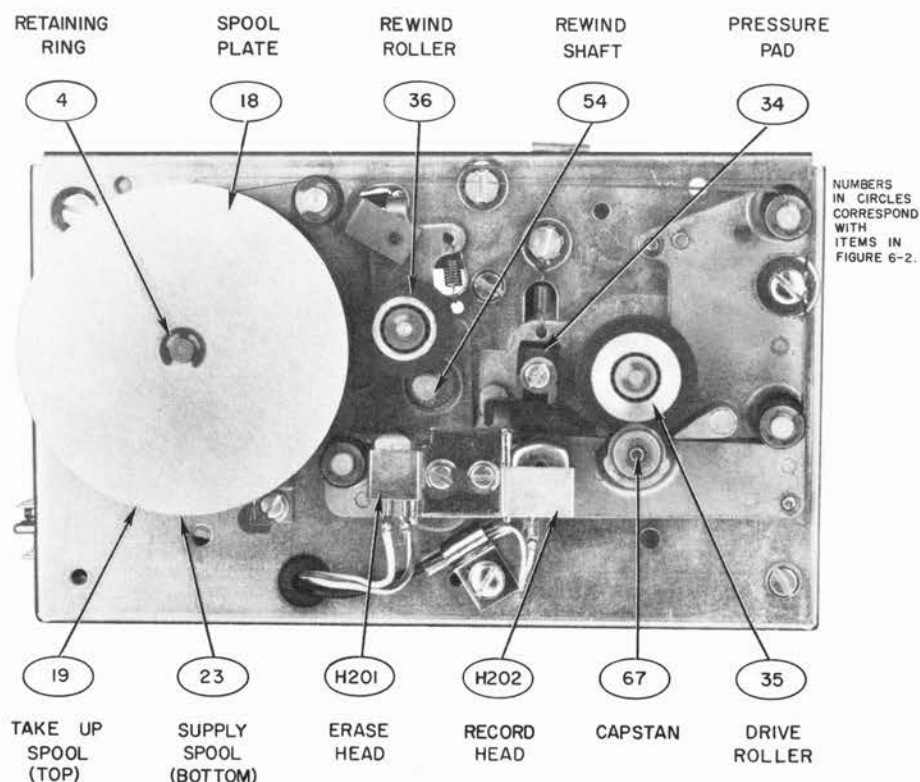

FIGURE 4-2 TAPE DECK FRONT VIEW, COVER REMOVED
- (3) Remove retaining ring and spool plate (fig. 4-2).
- (4) Rotate spools clockwise to wind tape onto supply spool until end of tape is visible.
- (5) Disconnect tape from take up spool and carefully allow take up spool to rotate until clock spring inside is relaxed.
(3) With cloth or swab moistened in alcohol, clean the erase and record heads, pressure pad, pressure roller, and capstan (fig. 4-2).
a. Pressure pad (fig. 4-2):